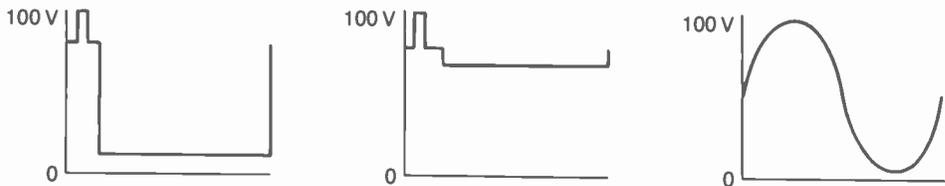

FIGURE 14-12 FOR PROBLEM 5.
5. For each of the three waveforms in Fig. 14-12, (a) indicate the average dc level; (b) show the ac form with peak-to-peak amplitude.